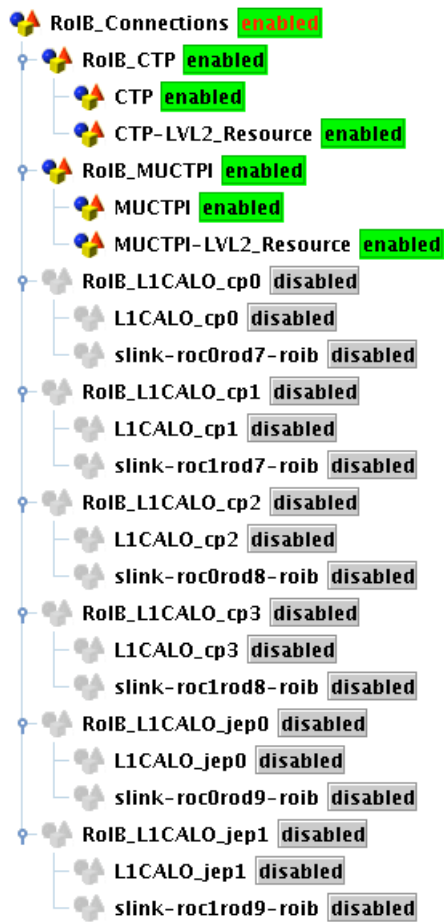

Figure 7: RoIB input channels – s-links connections
- RoIB_Connections which defines RoIBInputChannel objects and their respective S-link connection (Figure 7).